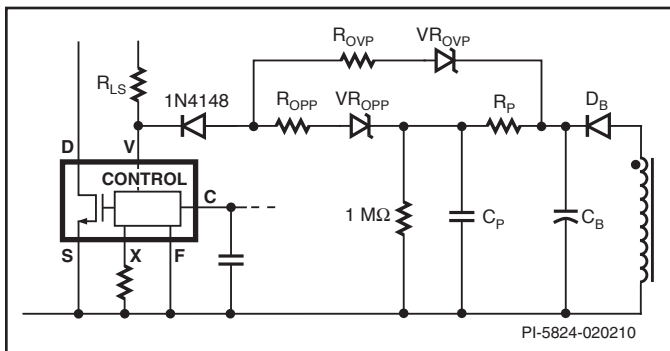

Figure 22. Implementation of Overvoltage Protection Together With Over-Power Protection Using the TOPSwitch-JX
- A soft finish circuit is recommended for high output voltage designs (>12 V) especially where large value output capacitors are used. This ensures start-up with full load at low line and also prevent output voltage overshoot. In Figure 22, R23, D6 and C19 show one implementation of the soft finish circuit.
Primary side sensed over-power protection can be implemented via the V pin by sensing the voltage on the bias winding. Figure 22 shows this configuration. Zener diode  $VR_{OPP}$  provides the output overvoltage protection and  $VR_{OPP}$  together with  $R_P$  and  $C_P$  provides overpower protection. This approach works well where the desired OPP limit is >150% of the full load output power.